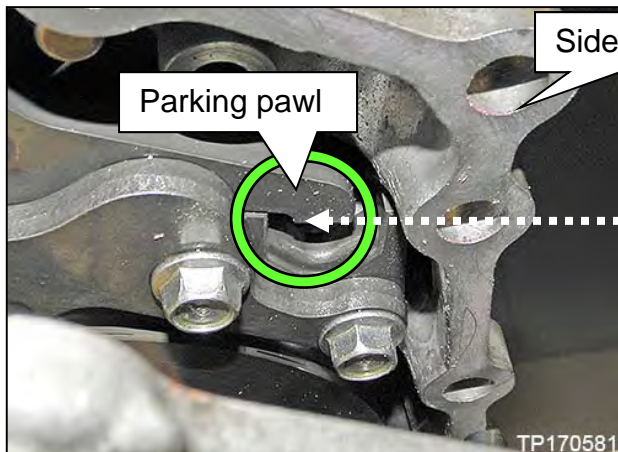
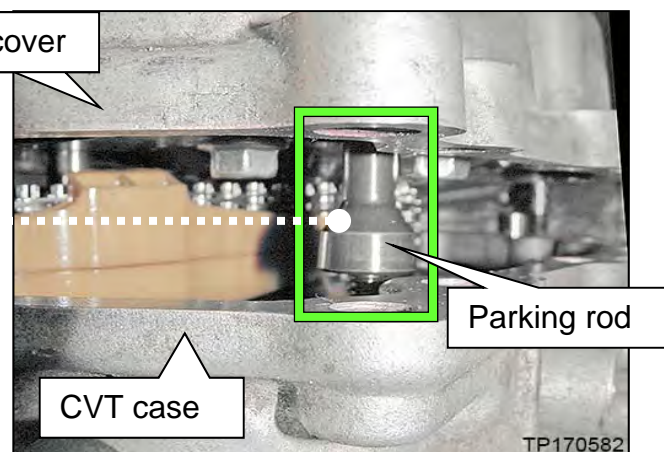

Figure 96
Figure 97
- b. Use a magnet, or similar tool, to align the parking rod in the CVT case (  in Figure 97) with the opening in the parking pawl (  in Figure 96) in the side cover.